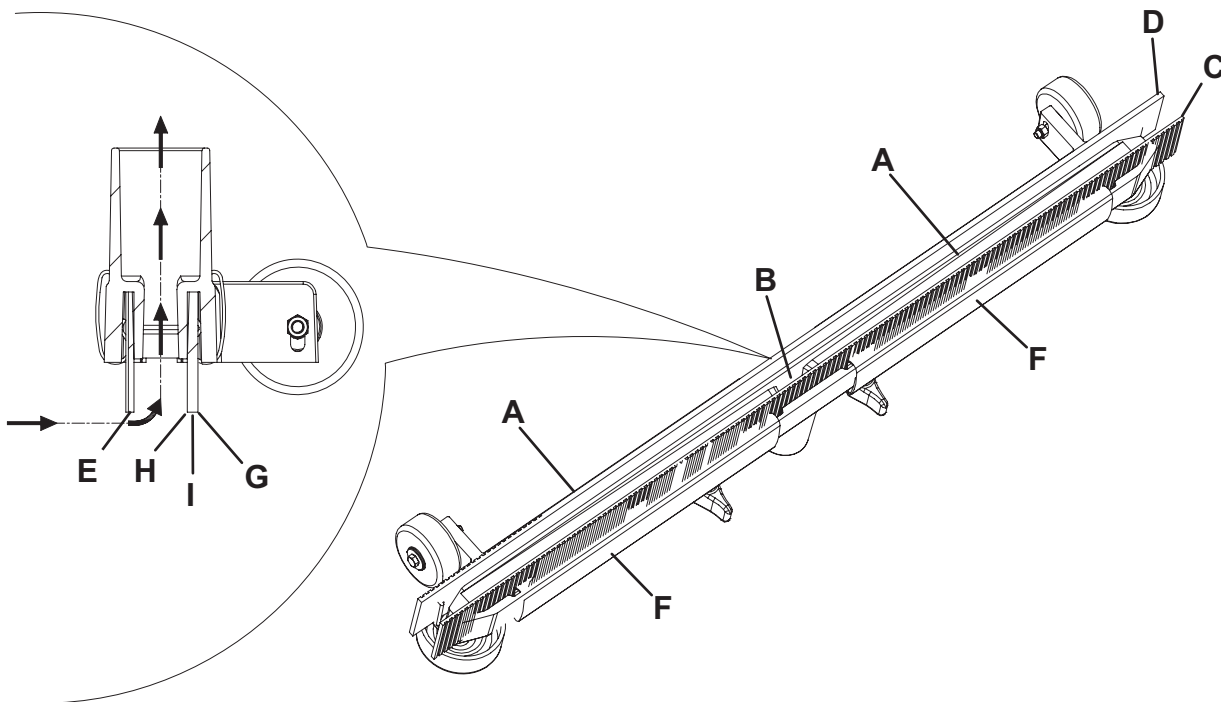

Figure 6
3. Lower the squeegee with the lever (19).
4. Disconnect the vacuum hose (22) from the squeegee.
5. Loosen the handwheels (12) and remove the squeegee (11).
6. Wash and clean the squeegee. In particular, clean the compartments (A, Fig. 6) and the vacuum hole (B) from dirt and debris.
7. Check the front blade (C) and the rear blade (D) for integrity, cuts and tears; if necessary replace them (see the procedure in the following paragraph).
2. Check that the front blade edges (E, Fig. 6) and the rear blade edges (I) lay down on the same level, along their length; if necessary adjust the height according to the following procedure:
- Remove the mounting springs (F), then adjust the front blade (C) and the rear blade (D).
3. Check the front blade (C) and rear blade (D) for integrity, cuts and tears; if necessary replace them as shown below. Also check the front corner (H) of the rear blade for wear; if it is worn, overturn the blade to replace the worn corner with the other one (I), if it is integral. If the other corner is worn too, replace the blade according to the following procedure:
- Remove the mounting springs (F) and then replace (or overturn) the rear blade (D).
4. Install the squeegee (11) and screw tighten the handwheels (12).
5. Connect the vacuum hose (22) to the squeegee (11).